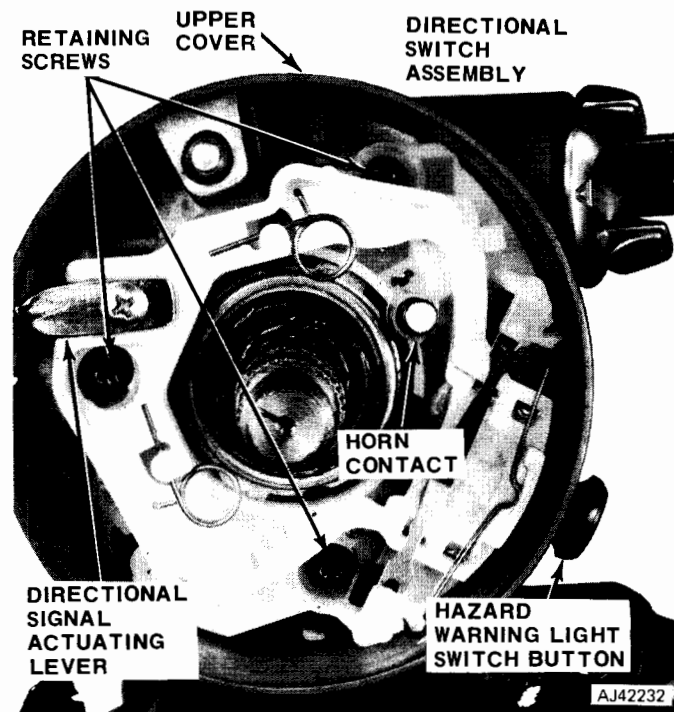

Fig. 3-86 Directional Switch
(13) Remove directional signal switch retaining screws and pull directional signal switch and wire harness from column (fig. 3-86).